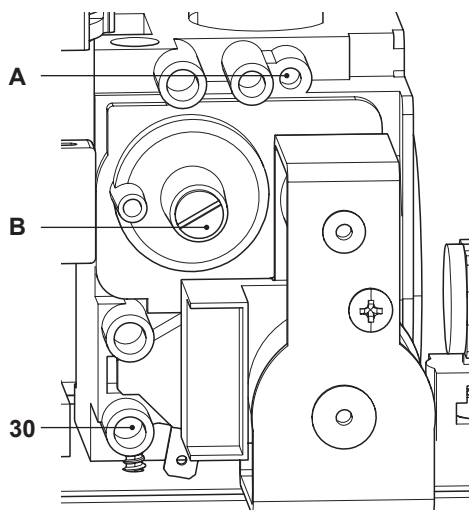

Fig. 7.8
- With the boiler switched on at full rate (maximum output power), check the supply pressure by using the 30 point in Fig. 7.8 and compare the value with that reported on the Gas supply pressure table (minimum inlet pressure) in the "Technical Data" section (page 26 **ADVANCE 30C** and page 30 **ADVANCE 35C**).
- Ensure the test nipple 30 in Fig. 7.8 is firmly closed.